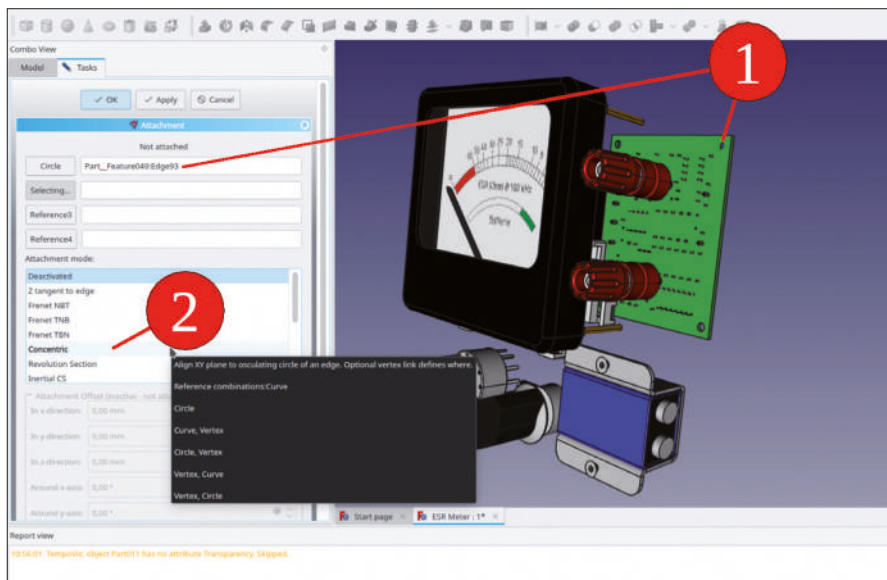
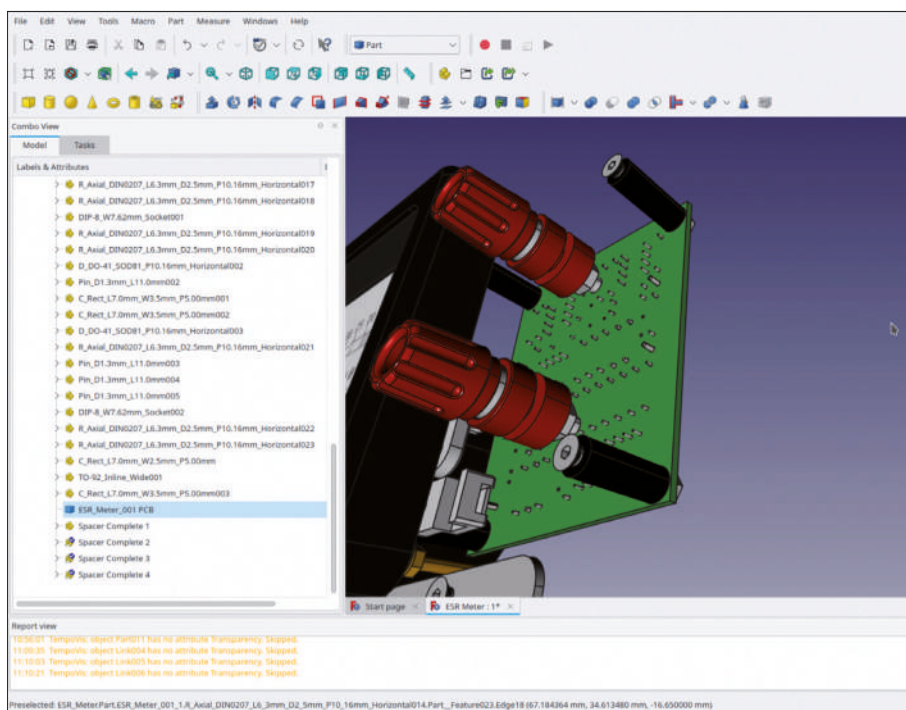

Figure 7-66
Figure 7-68
12. In the tree view, mark 'Spacer Complete 1' and switch to the 'Part' workbench. From the main menu, select 'Part | Attachment'. From the rear of the circuit board, select the edge of a mounting hole (hiding the front panel with the SPACE key will make that easier). For the attachment mode, select 'Concentric' (Figure 7-66). Set the attachment offset Z to  $-18$  mm (Figure 7-68) and close the task window with the 'OK' button.
14. Repeat the attachment procedure as described for 'Spacer Complete 1' for all the spacers, distributing them to the different mounting holes of the PCB. The result is shown in Figure 7-68.